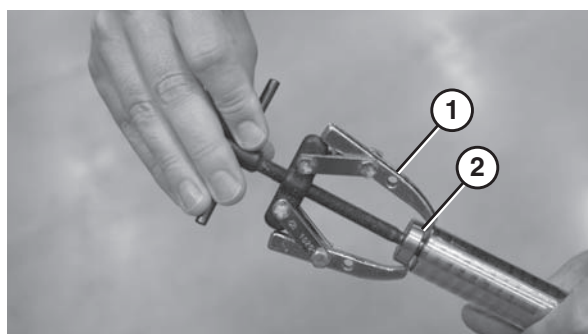

Figure 93
3. Using a bearing removal tool (**Figure 93, item 1**) remove the bearing (**Figure 93, item 2**).